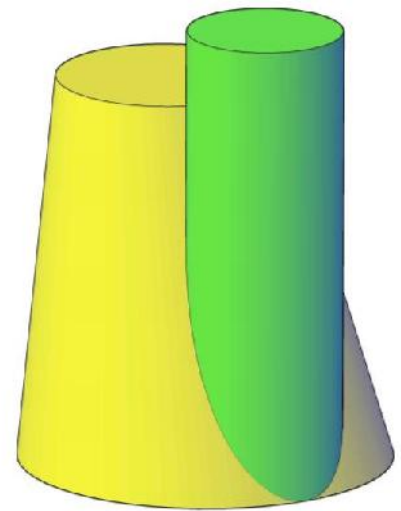

Figure 3a
3. A right cylinder intersecting an oblique truncated cone is illustrated in Figure 3a